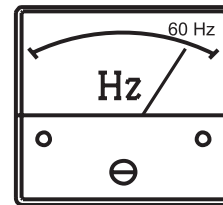

Figure 47. Frequency Meter
5. The generator's **frequency meter** (Figure 47) should be displaying the 60-cycle output frequency in **HERTZ**.